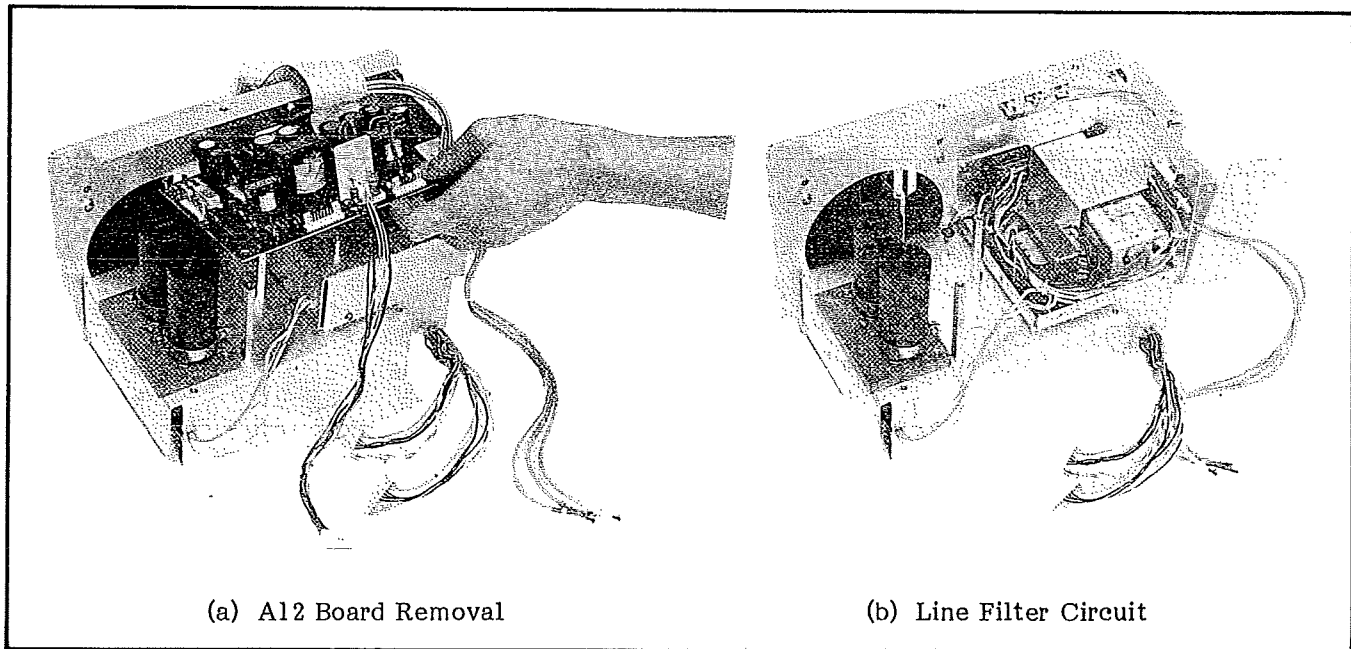

Figure 8-8. A11 and A12 Board Removal.
- (1) Remove rear assembly A as described in paragraph 8-28.
- (2) The A11 or A12 board can be removed by disconnecting all cables and removing the screws that secure the board to the assembly. Refer to Figure 8-8 (a).
- (3) If screws 1 through 5 shown in Figure 8-8 (a) are removed, the line filter can be accessed, as shown in Figure 8-8 (b).